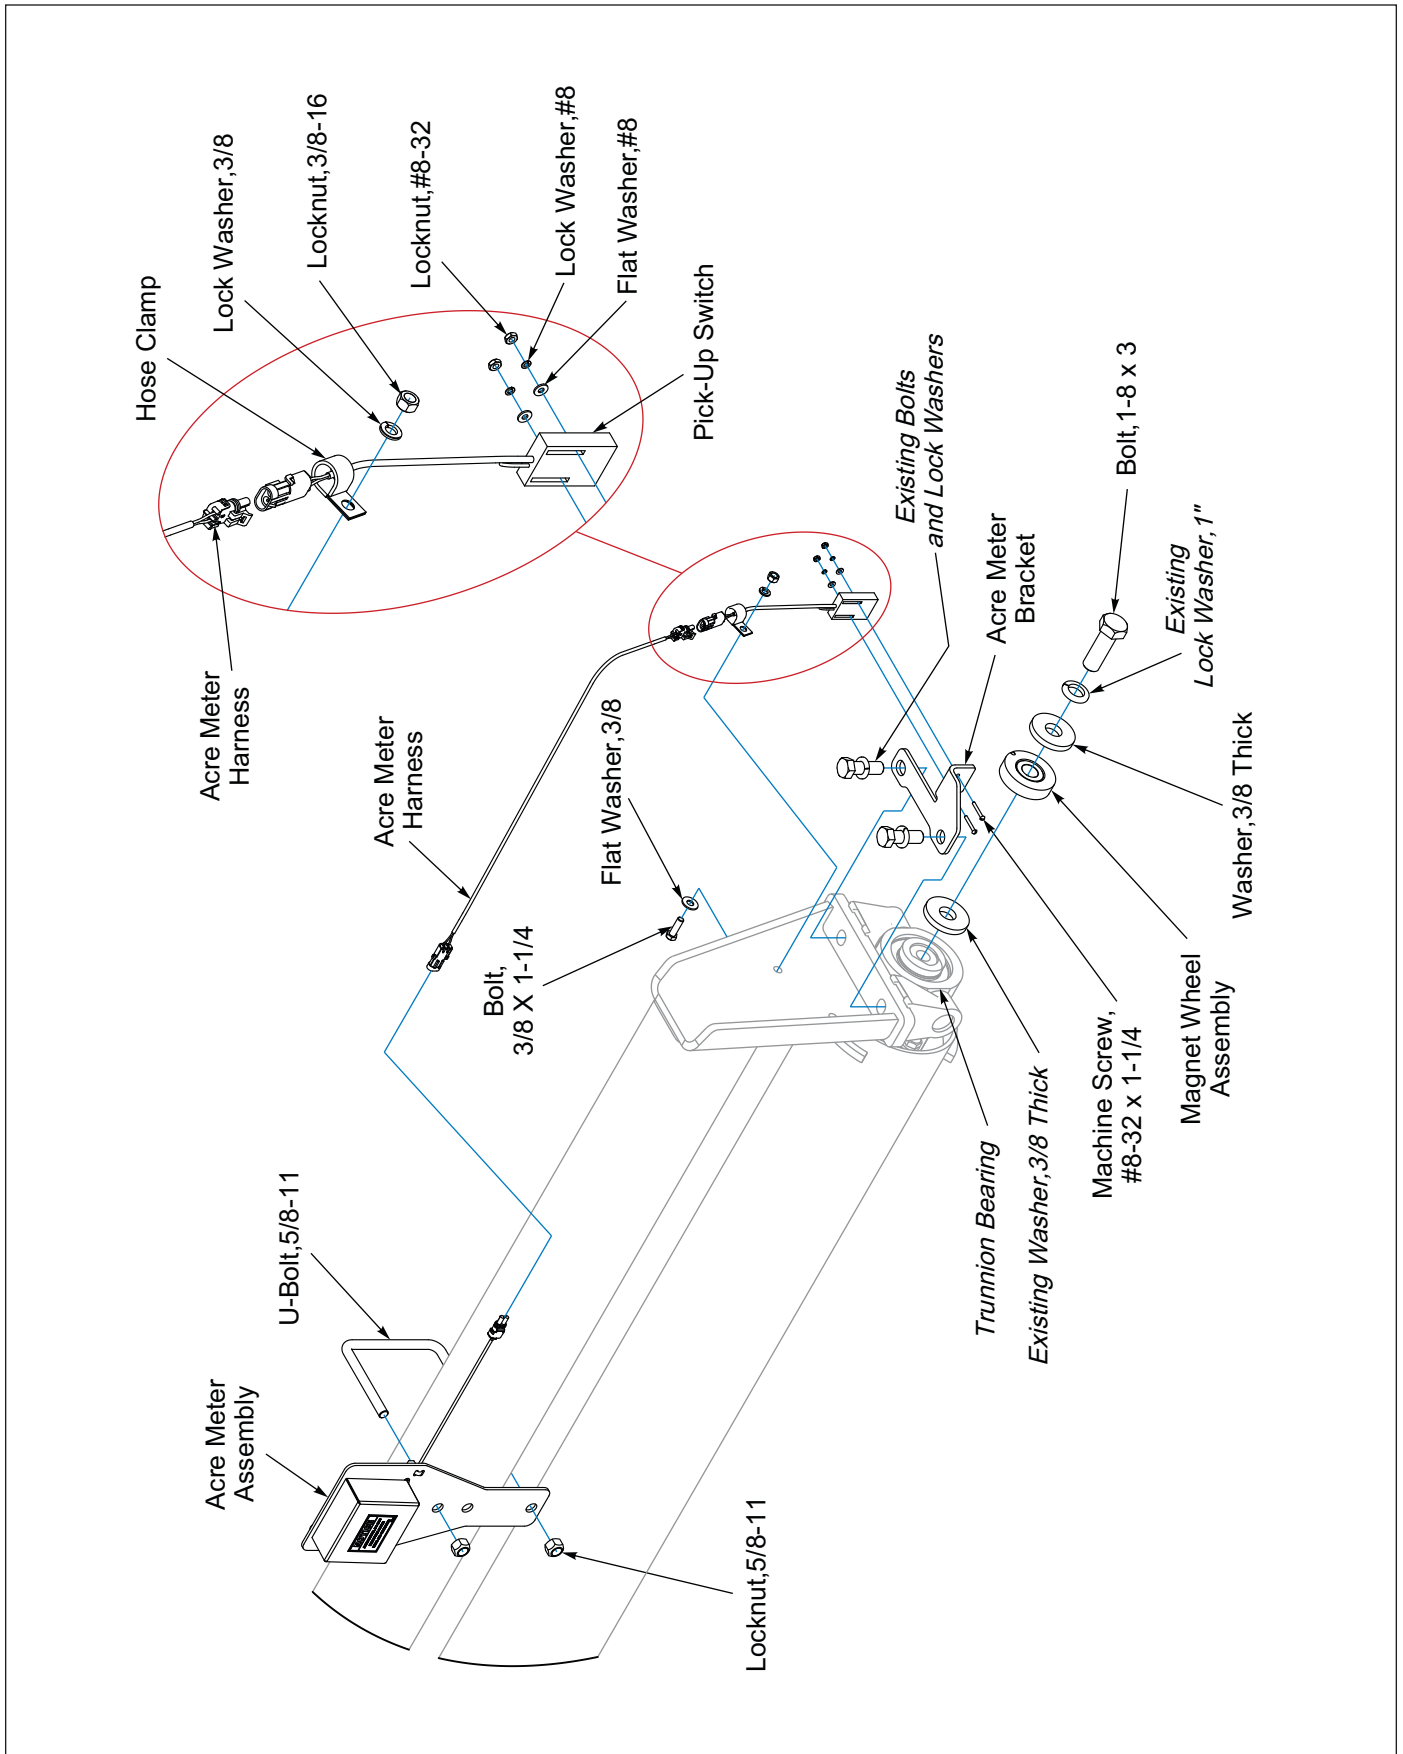

Figure 2-26: Acre Meter Installation - Optional
1. Attach the Acre Meter Assembly to the front frame tube using 5/8-11 U-Bolt and Locknuts. **See Figure 2-26.** Attach the Acre Meter Switch to the Acre Meter Bracket using #8-32 x 1-1/4" Screws, Flat Washers, Lock Washers, and Locknuts. Attach the short pickup switch ground wire under one of the screw heads, removing paint under the wire connector to assure a good electrical ground connection. **Do not tighten at this time.** Set aside.